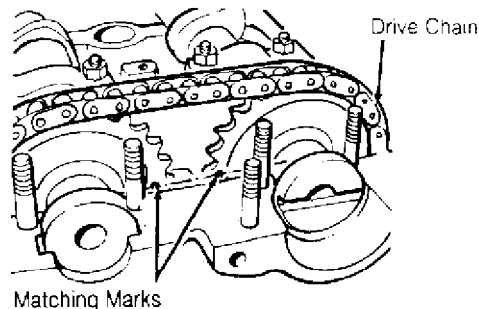

Fig. 13: 16-Valve Camshaft Gear Position
1) On engines with oil spray jets, position spray at right angle to camshaft. Place chain on both camshaft gears. Align marks on gears and place both camshafts in cylinder head as shown. See Fig. 13.